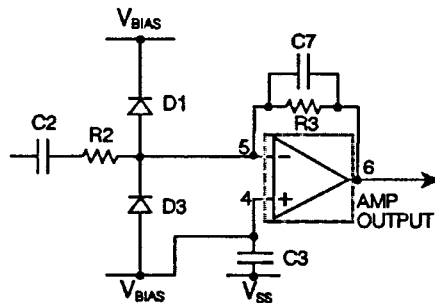

Figure 2 - Recommended External Components
(2) Input Amplifier gain components (Figure 2 a & b). These components set the gain required to achieve the various National Level Specifications. Instructions for gain calculations are given in Figure 3 and Note 4 (below).
(3) Protection diodes: since most telephone systems operate at voltages in excess of the Absolute Maximum limits for damage, diodes D_1 - D_4 are essential for device protection.
(4) Calculation of gain components: